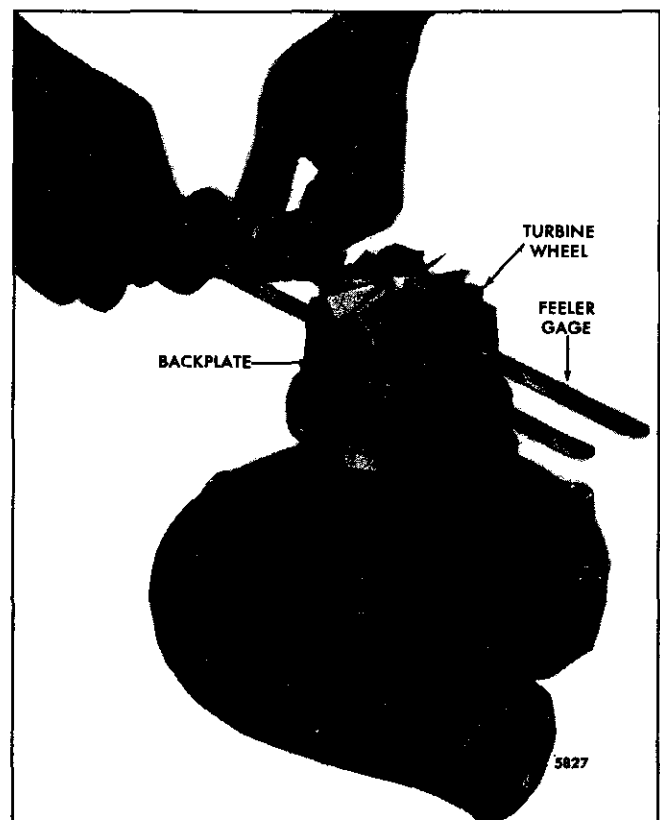

Fig. 19 - Checking Turbine Wheel to Backplate Clearance
19. Check the turbine wheel back clearance by placing two equal feeler gage stacks between the back face of the turbine wheel and the backplate on the opposite sides of the shaft (Fig. 19). Clearance must be .017" to .049". If clearance is not within limits, proceed as in Step 14 above.